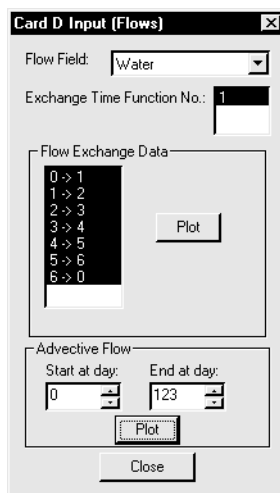

Figure 21: View Input for Group D
1. For example, with Card D using the **river.wsb** file, the **View Input** window displays the flows for the different nodes, see *Figure 21*.